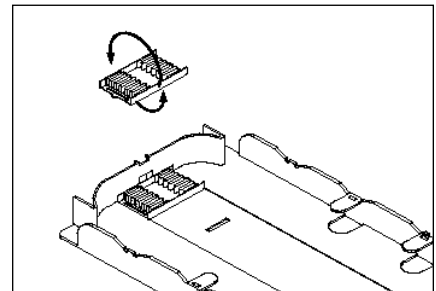

Figure 5
- For best results, rotate filled modules 1 and 2 one complete turn (Figure 5, see arrows) and snap into ribbon tray. This will create a twist on each ribbon and allow them to lie more neatly in the tray.